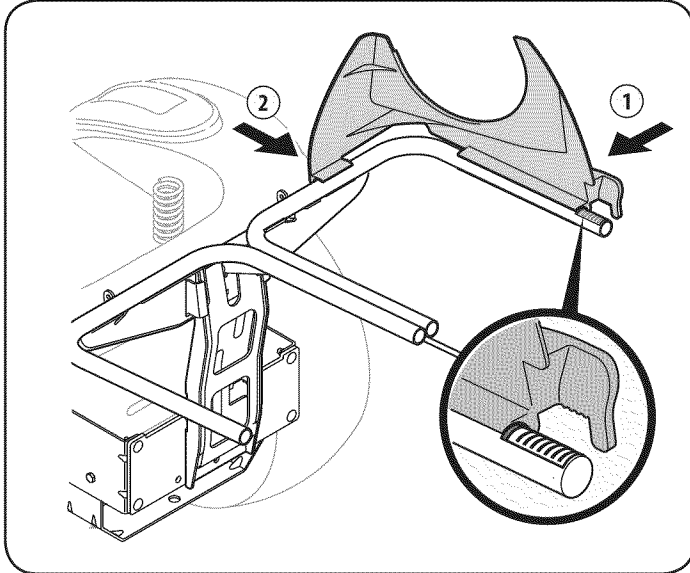

Figure 13
1. Snap the upper chute support in place by first clipping the side portion onto the bin support rail. Align the edge of the snap feature with the red line (1), as shown in the inset of Fig. 13.
2. Snap the front portion of the upper chute support to the bin support rail as seen in 2 of Fig. 13.